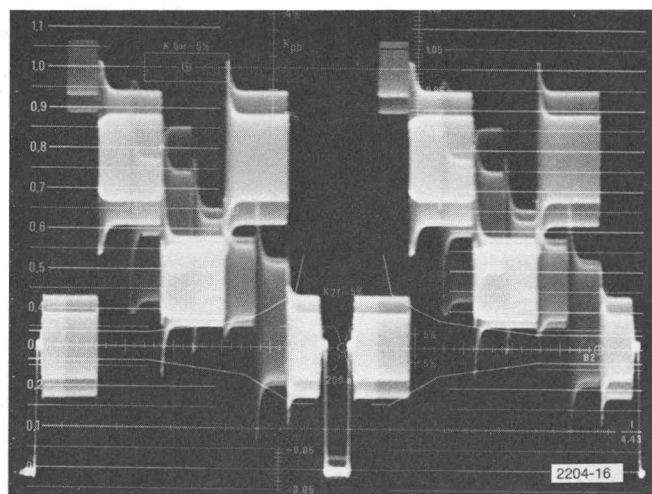

Fig. 1-16. Split field observed on Waveform Monitor (15 line display on Waveform Monitor used to eliminate unwanted signal).
8. WAVEFORM: Turn off the waveform monitor's line selector. Set the 143 WAVEFORM switch to SPLIT FIELD and observe a waveform monitor display similar to Fig. 1-16.